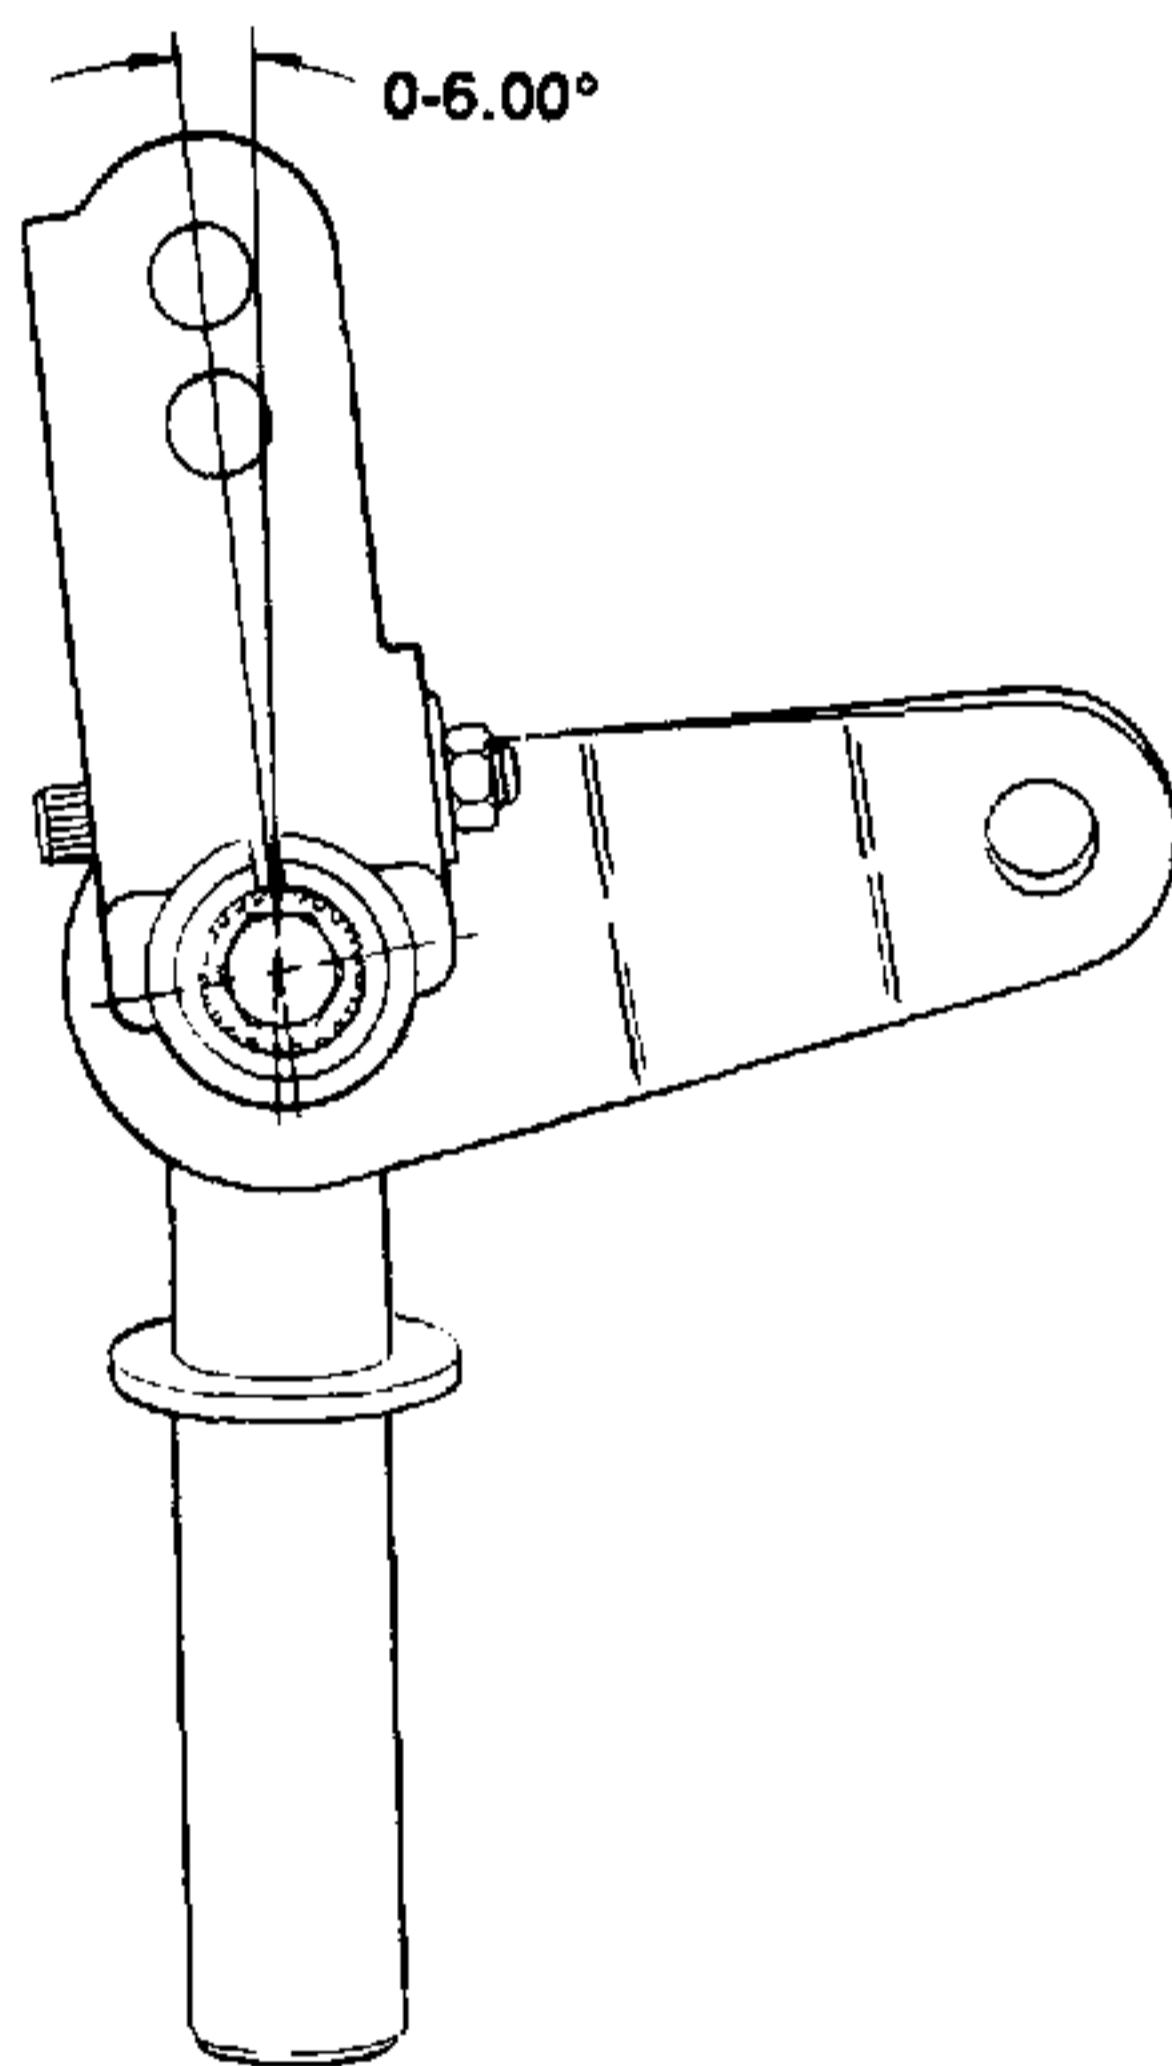

Figure 5-27. Power Steering Arm Installation (Model 1862).
The power steering arm (30) must be installed so that it is set 0-6 degrees ahead of the front axle. Refer to Figure 5-27.